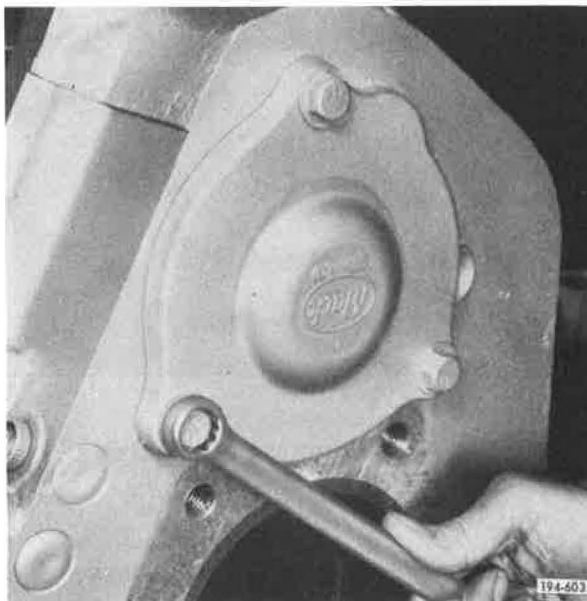

Figure 5-270. Removing Capscrews
1. Remove rear countershaft rear bearing cover capscrews. See Figure 5-270.